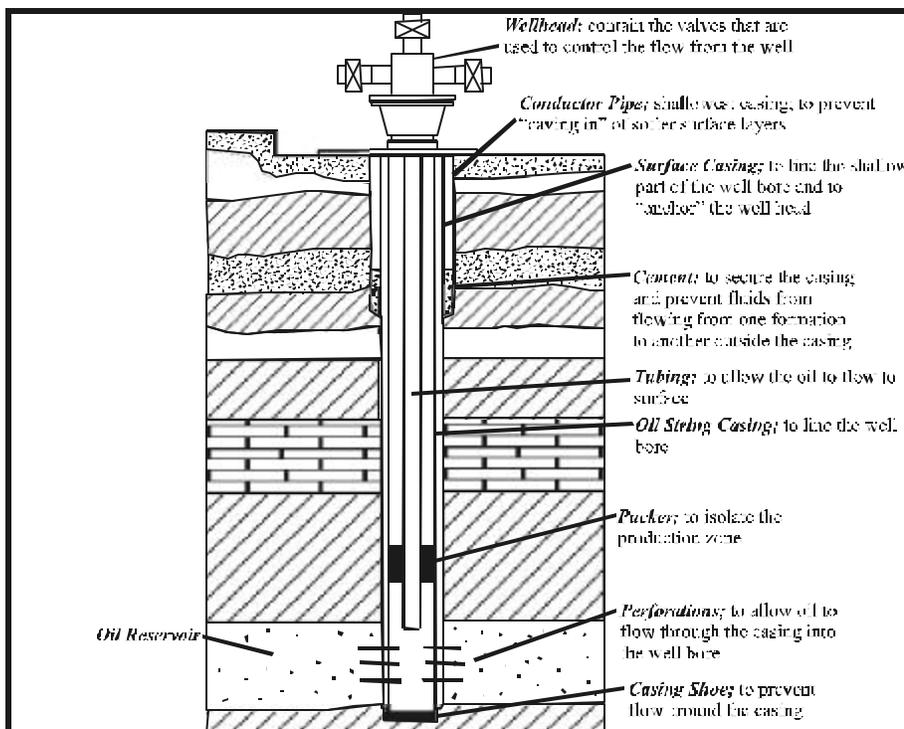

Figure 10.2 -The Completed Well
After a well has been drilled to total depth (TD) and has proven by drillstem test (DST) to be capable of producing oil or gas, it must be *completed*. “Completing a well” means installing equipment in the well to allow a safe and controlled flow of petroleum from the well. In addition to the casing that lines the well bore (recall Chapter 8), *tubing* and a system of flow valves must be installed (Figure 10.2). Tubing is a smaller pipe through which the oil or gas flows to the surface during production. It may be two to six inches in diameter, depending on the flow capability of the well.